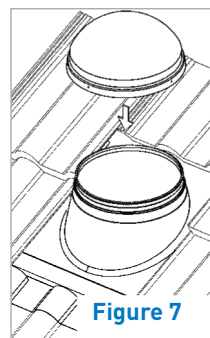

Figure 7
- **(For 250mm and 350mm systems)** Place the polycarbonate dome over the tube and push down over the brush seal until the dome has located onto the shoulder of the roof mounting unit. Using the holes in the dome edge as a guide, drill 3mm pilot holes into the sides of the roof flashing unit and through to the tube (Figure 7, 7a or 7b depending on which secondary glazing and LSD options being used).